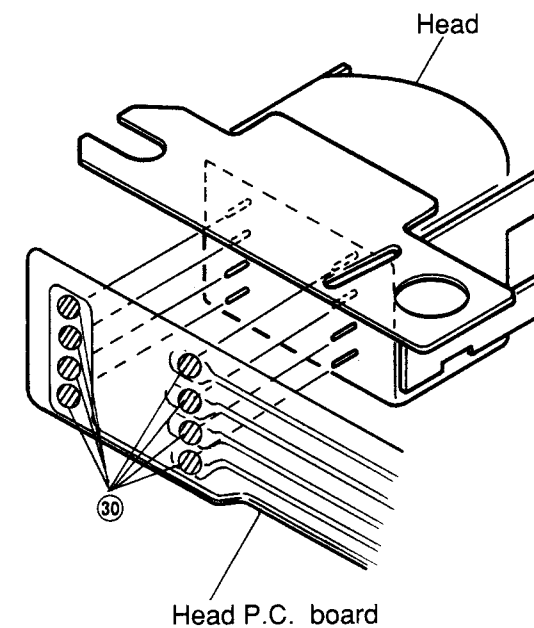

Figure 22
- (2) Remove solder ③⑩ and remove the head from the head P.C. board as shown in Figure 22.
- (3) After replacement, mount the new head following the removal steps in the reverse order.